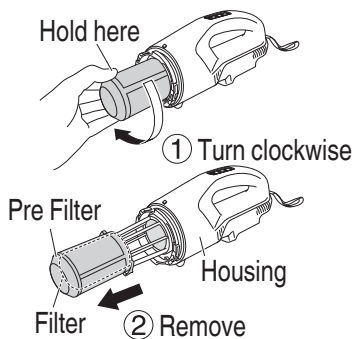

Fig. 7
(2) Remove the pre filter. (Fig. 7)